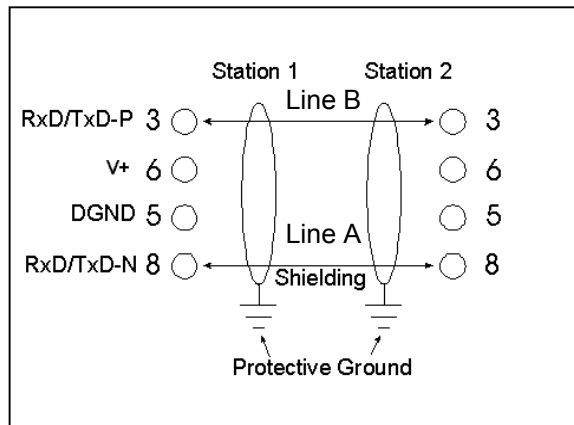

Figure 3 - Wiring
- a. The PBM101/PBM101-12 uses a 9-pin D-sub plug connector for its DP port. The DP connector is used for the physical connection between slaves and the master. The pin assignment of the plug connector and the wiring are shown below (Figure 3).